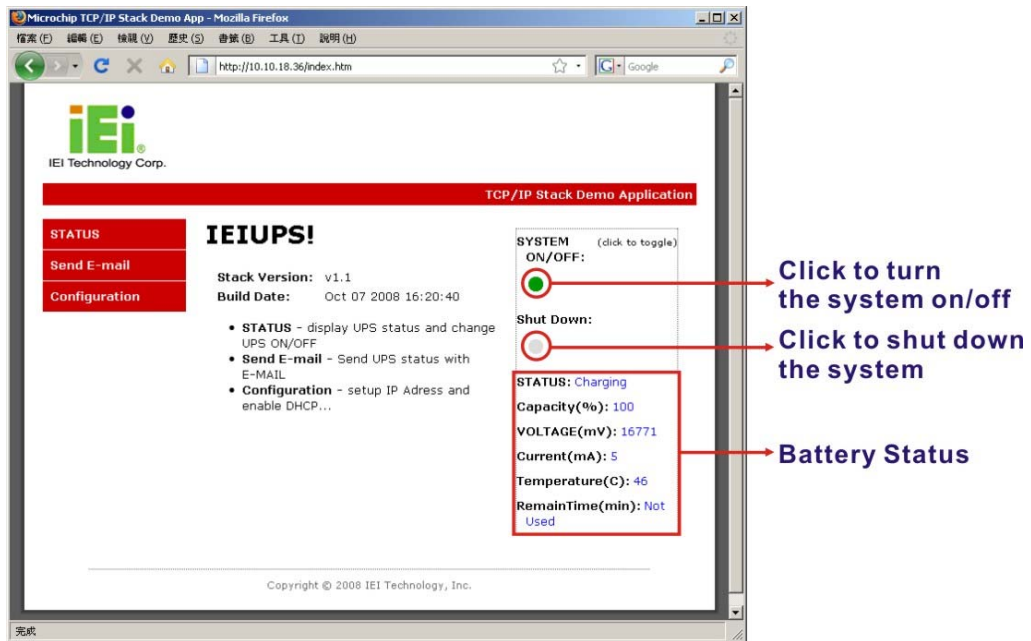

Figure 8-18: Remote Management Web Interface - Status
Step 5: Figure 8-18 shows in a web browser.